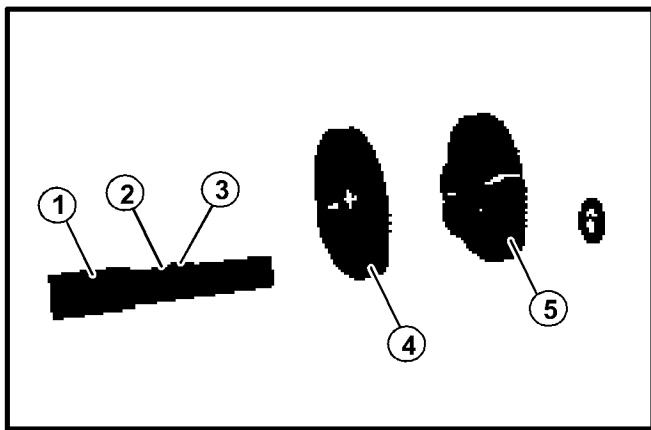

FIGURE 21
10. 2. Remove both of the gears and key from the shaft (See FIGURE 21).
13. Reinstall the key and single gear on the output shaft. The end of the gear with the higher step should face the snap ring (Refer to FIGURE 21).